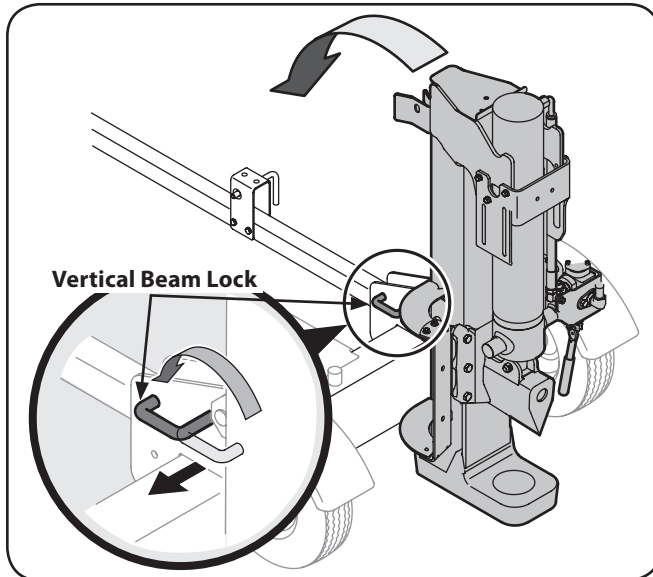

Figure 3-3
- Pull out the vertical beam lock, rotate it back, and pivot the beam to the horizontal position until it locks being sure to avoid any possible pinch points. See Figure 3-3